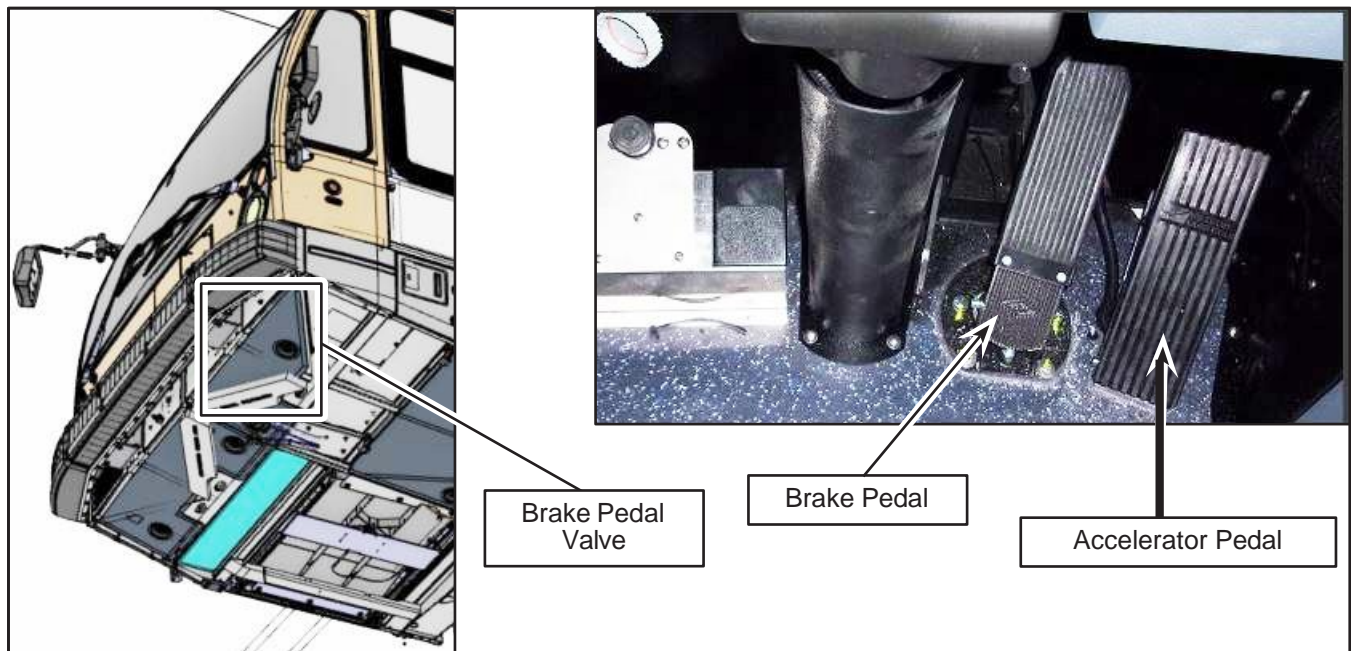

Figure 1 - Brake Valve - Brake and Accelerator Pedals
- 1.5. In the vehicle, locate the brake and accelerator pedals. Underneath the vehicle, behind the front dust pan, locate the brake valve (Figure 1).